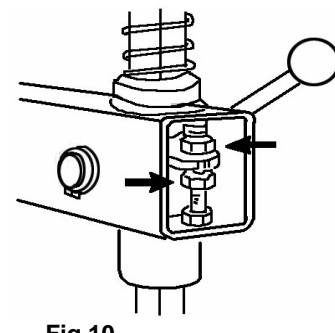

Fig 10.
- e. If it is necessary to adjust the vertical arm locking plat because the tool doesn't lock or it doesn't rise from the rim of 2mm necessary for working, adjust nuts as shown in figure 10.